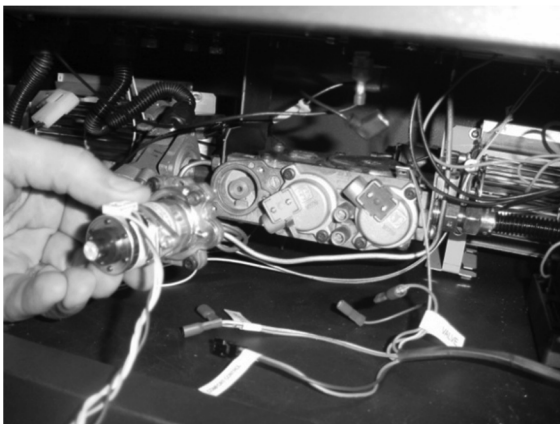
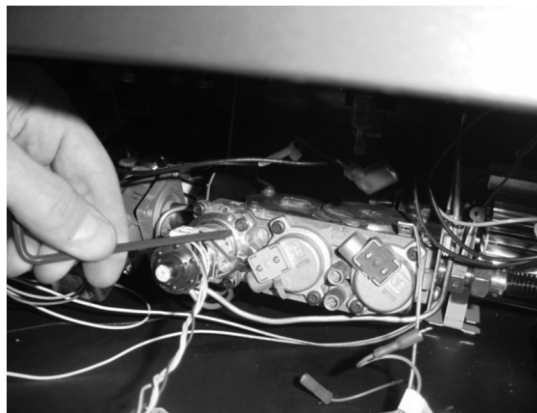

Figure 1
Figure 2
- (b) Remove and discard the Natural Gas (NG) orifice. Place the LP orifice in the pilot assembly then replace the pilot hood, tightening the pilot hood until it is snug (do not over-tighten).
- 7 Remove the control panel to access the gas control valve. The stepper motor (adjustable regulator) has an installation sheet included with it – make sure to follow all of the directions. Place the stepper motor on the gas control valve (see Figure 1) – **MAKE SURE IT IS CORRECTLY ORIENTED.** Secure using the screws included with the motor (see Figure 2) – tighten to 25 Lb-inches. Leak test this area after installation to verify proper installation.